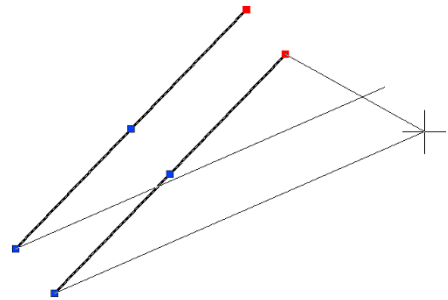

FIGURE 11-11:
- » Select multiple objects. Hold down the Shift key while selecting multiple grips. Each one turns red to indicate that it's hot. When you move one grip, all the hot ones move in parallel with the selected one, as shown in Figure 11-11.